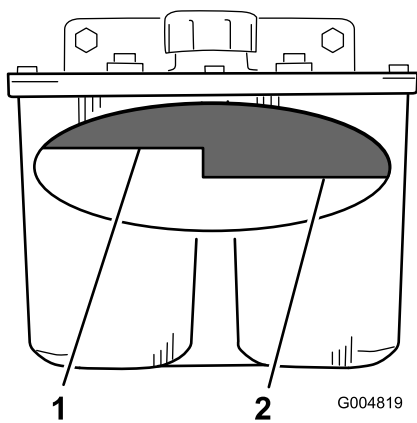

Figure 70
- Clean the area around filler neck of hydraulic tank (Figure 70).
- Remove the cap from the filler neck. Look inside to check if there is fluid in the reservoir (Figure 70).
Note: The fluid level should be to the top of the hot level of the baffle, when the fluid is hot (Figure 70).